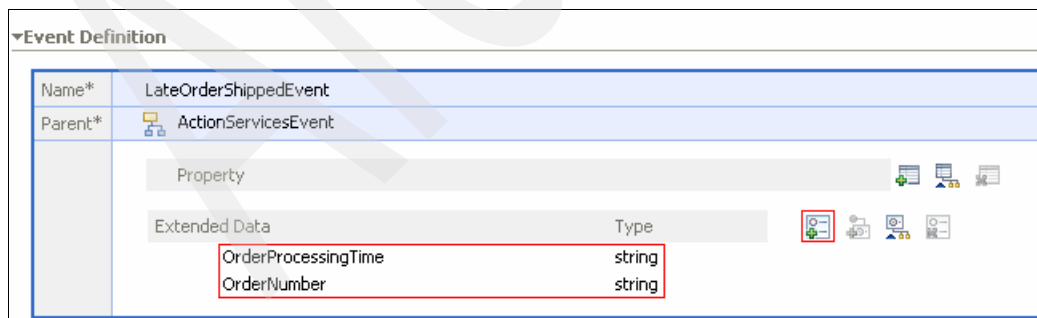

Figure 8-88 Adding the extended data for the event definition
36. Under Event Definition (Figure 8-88), add the extended data: